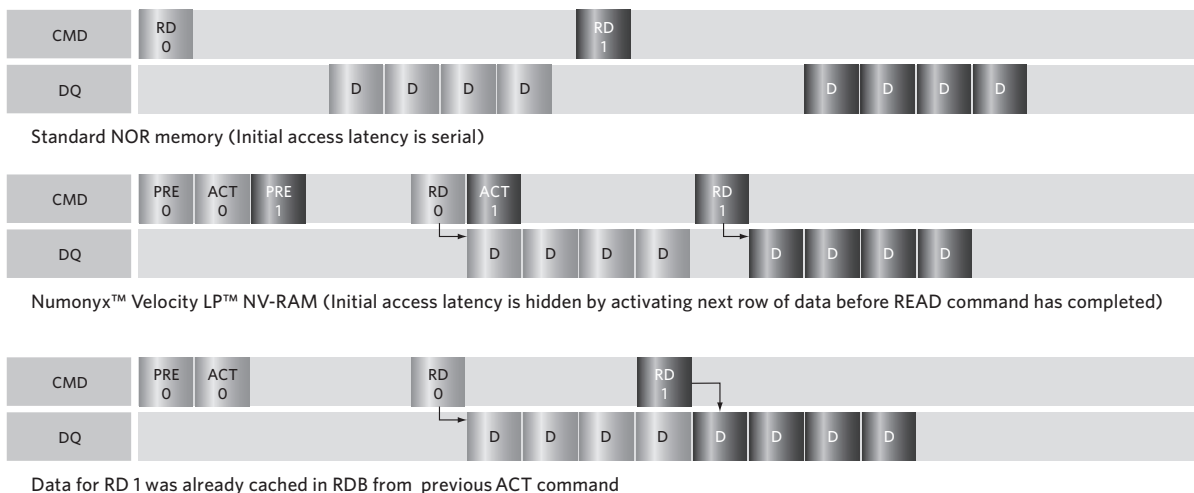

Figure 1: Read data returns comparison for standard NOR flash versus Numonyx™ Velocity LP™ NV-RAM
completely serialized. (Figure 1) Subsequent read commands cannot begin until uncompleted read commands have been completed. Interleaving read commands using Numonyx Velocity LP architecture allows for shadowing of some initial access delays, resulting in a reduced overall initial access delay. This is achieved by using Numonyx Velocity LP Row Data Buffers (RDBs). Numonyx Velocity LP utilizes four RDBs, which act as an internal cache to store Row Data after it has been sensed from the array. Once a row has been activated from the array, it remains in the RDB, where it will have a CAS Latency (CL) of three clocks. While an RDB entry is being read, an ACTIVATE command may be issued to activate an additional Row into an alternate RDB entry. Hence, some of the RAS delay may be reduced by overlapping RAS and CAS delays. Furthermore, the improvement seen is much greater when subsequent READ commands address rows that have been previously placed in the RDB. This would equate to a page hit.